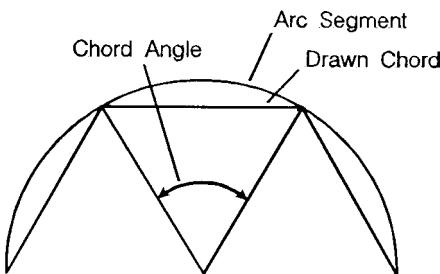

Figure 54. Chord Angle
- **chord_angle:** Specifies, in degrees, the chord angle used to draw the arc. The default is a chord angle of 5° . The *chord_angle* specifies the maximum angle created when lines from each end of the chord intersect the center point of the circle (see Figure 54). The smaller the chord angle, the smoother the curve. The useful range is from 0.0° to 180.0° . A chord